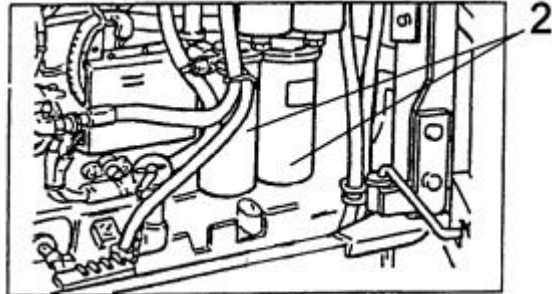

Fig. 5.32. Lubricating Oil Filters
2. Remove the castellated nut protecting automatic valve 1, Fig. 5.32. Install drain hose (included in the machine accessories) on the open thread. Drain valve will be opened automatically as the hose nut is thread in. Drain the oil completely to a container.